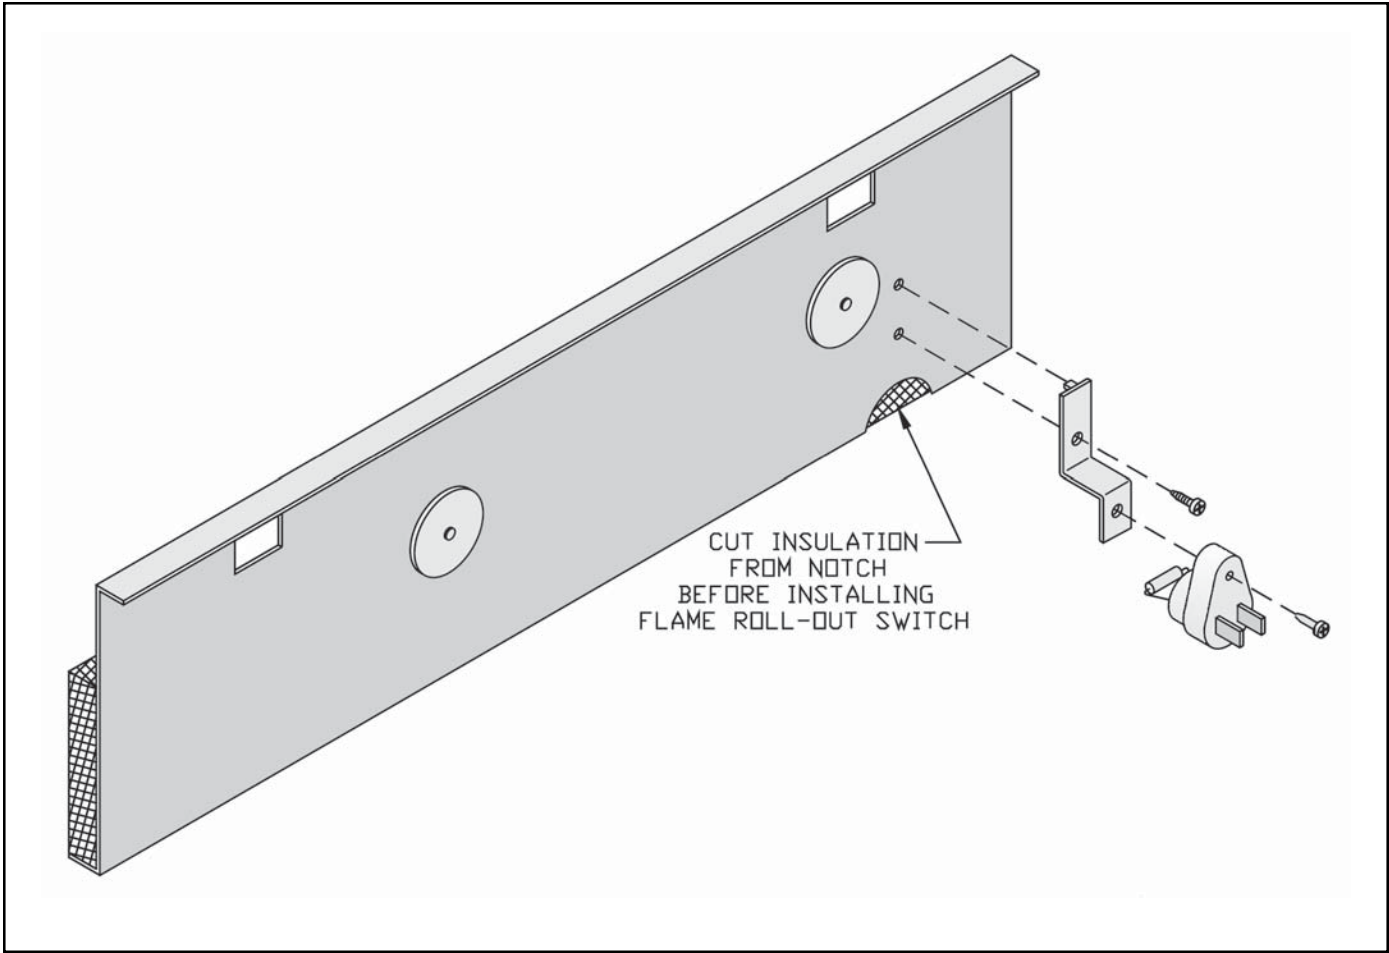

Figure 6: Flame Roll-out Switch Installation
K. Attach Flame Roll-out Switch to Burner Access Panel. See Figure 6. Flame Roll-out Switch and hardware are located in Combination Boiler Parts and Control Carton. Flame Roll-out Switch is a single use device - do not test with heat - switch cannot be reset.
1. Cut insulation from semicircular notch at right end of the burner access panel. Models 808B - 810B have two (2) burner access panels. Remove insulation from notch of right side burner access panel only.
2. Attach Flame Roll-out Switch Mounting Bracket to burner access panel with (1) #8 x ½" lg. sheet metal screw.
3. Attach Flame Roll-out Switch to mounting bracket with (1) #8 x ¾" lg. sheet metal screw.
L. Install Burner Access Panel(s). Locate Burner Access Panel(s) in Combination Boiler Parts and Control Carton. Engage Burner Access Panel holes with projections on Base Front Panel. See Figure 6.